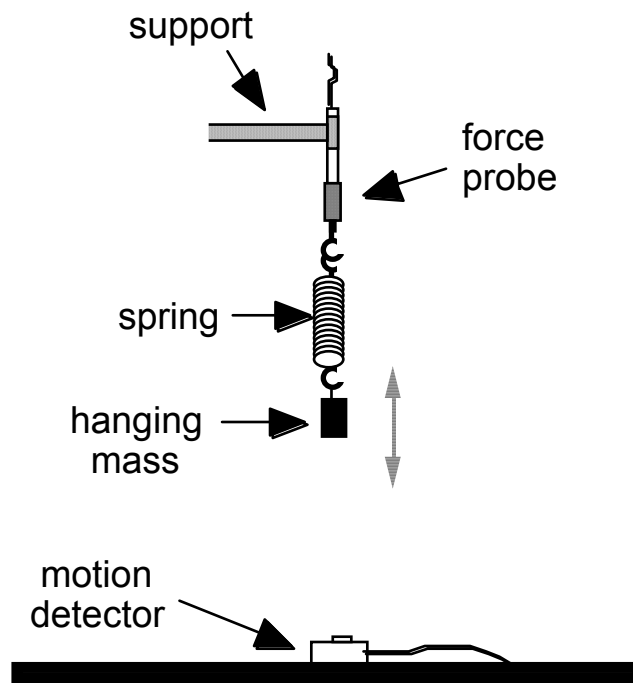

Figure 5. Experimental setup for Activity 2
- Hang the spring on the force probe, and then hang the 250 gram mass on the spring, as shown in Figure 5. Secure the masses in the hanger with tape so they don't fall and destroy the motion detector (which would cost the equivalent of about three or four CD's!).